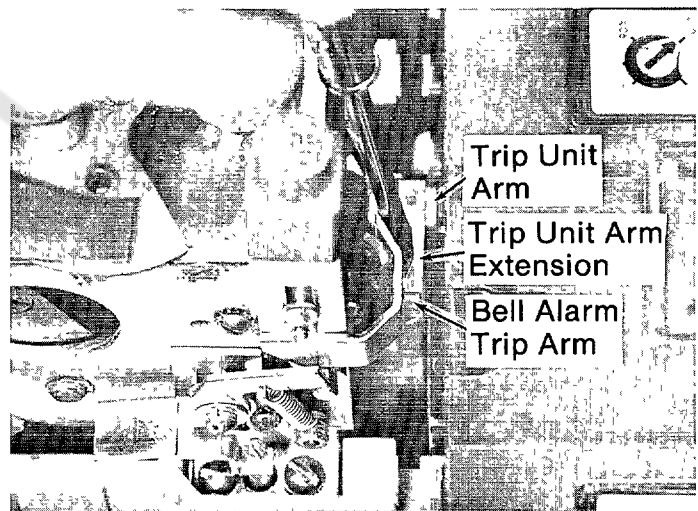
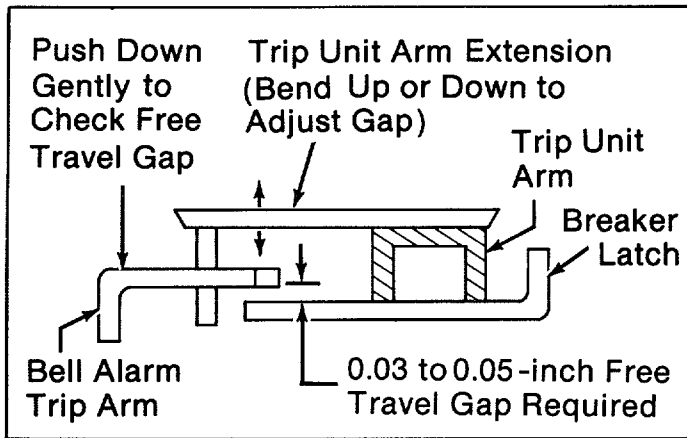

Fig. 7. Checking free travel of trip arm.
Fig. 8. Checking free travel of trip arm (view from load end of breaker).
9. Reinstall the trip unit. As shown in Fig. 7, use a screwdriver to hold the trip unit trip bar extension down in contact with the breaker latch. Then, push the bell alarm trip arm down to observe the free travel. If the free play is not as shown in Fig. 8 (0.03 to 0.05 inch), adjust it by using small nose pliers to bend the extension up or down.